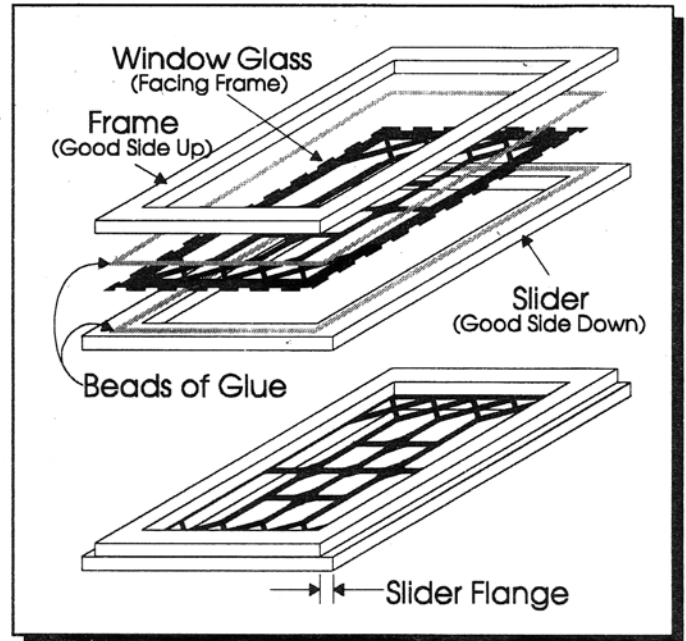

Figure 15
9. Run a bead of glue around the bad side of the frame and center it on top of the glass and slider. See Figure 15. Be sure to get some wood-to-wood gluing contact, but don't contaminate the Slider Flange with glue.